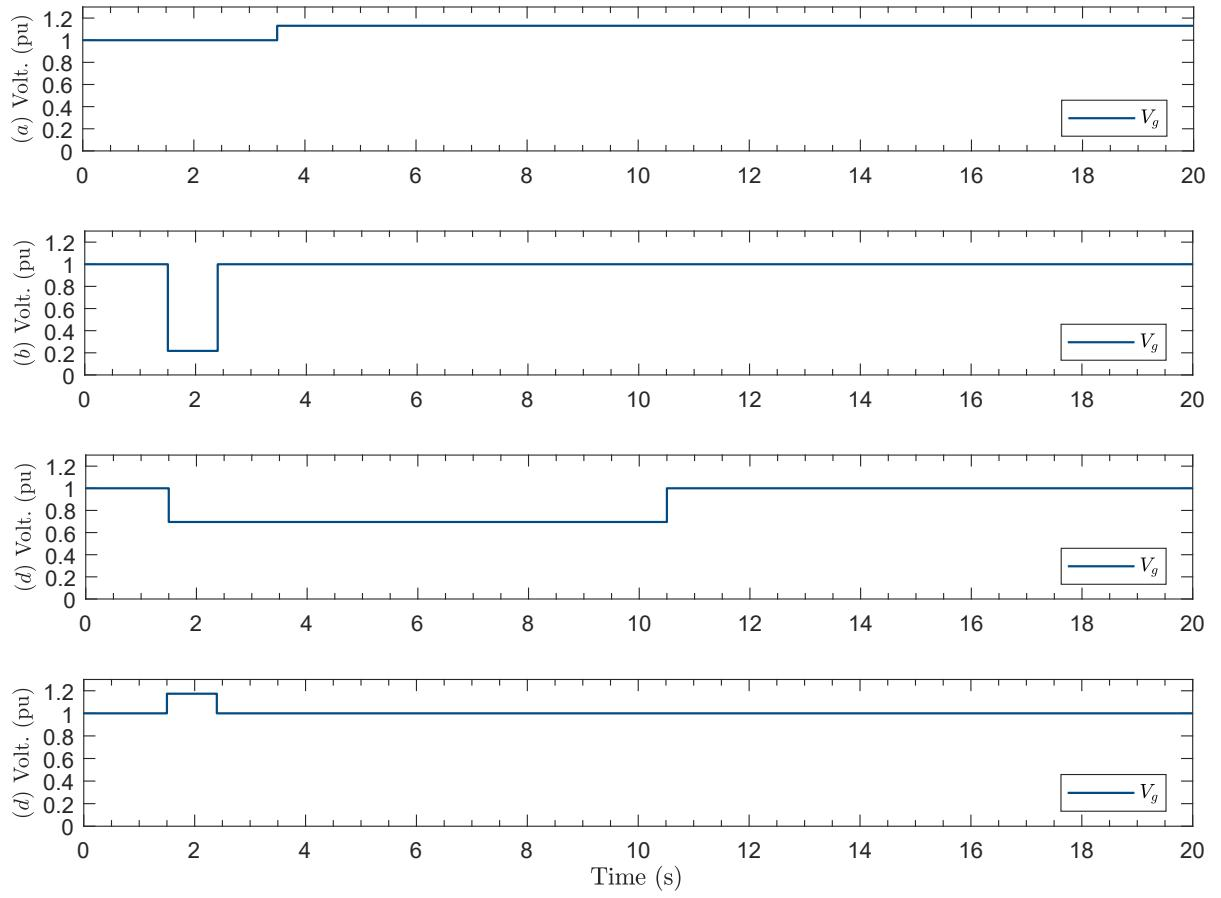

Fig. 12: Performed step voltage variation patterns.
- (a) **Test 14:** From 230V to 260V. -See Fig. 12(a).
- (b) **Test 15:** From 230V to 50V, then 50V to 230V, during time interval [1,1.9]s. -See Fig. 12(b).
- (c) **Test 16:** From 230V to 160V, then 160V to 230V, during time interval [1,10]s. -See Fig. 12(c).
- (d) **Test 17:** From 230V to 270V, then 270V to 230V, during time interval [1,1.9]s. -See Fig. 12(d).